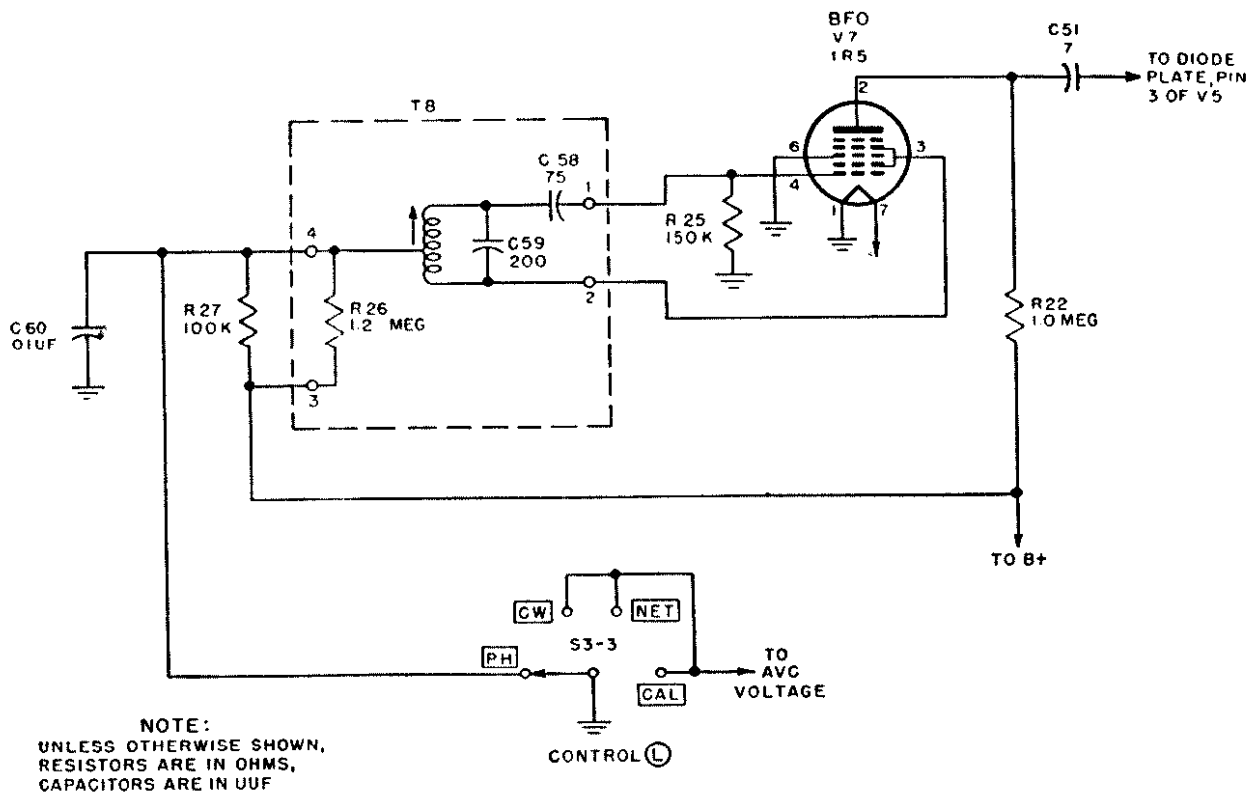

Figure 63. Beat-frequency oscillator.
86. Beat-frequency Oscillator (fig. 63)